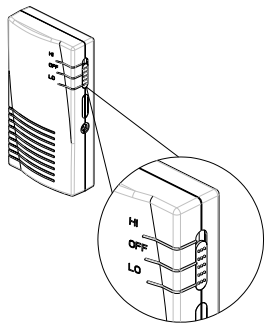

FIGURE 2a
- Step 1: Set the 3-position slide switch to "LO". (FIGURE 2a)